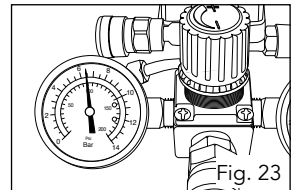

Fig. 23
1. With the desired tool attached to the quick lock regulated air outlet (5), switch on the compressor by pulling up the on/off switch (8). The tank will begin to pressurize. The level of the tank pressure can be read in the tank pressure gauge (12) (Fig. 23).